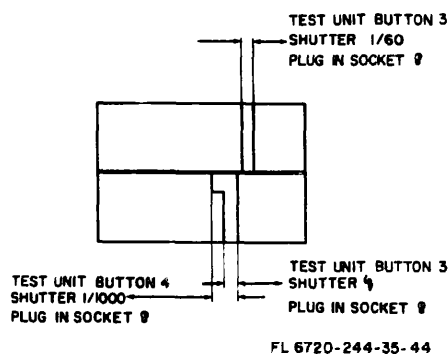

Figure 4-12. Flashbulb synchronizing tolerance pattern.
(1) Depress button 4 on the test instrument, wind the shutter, and set the shutter speed dial to 1/1000 second
(2) Release the shutter, and observe the position of the shutter slit on the pattern plate (fig. 4-12). The shutter slit should appear within the tolerance marks on the pattern plate. If it does not, proceed as follows:
(3) Depress button 3 on the test instrument, wind the shutter, and set the shutter speed dial to 1/60 second.
(4) Release the shutter, and observe the position of the first shutter curtain on the pattern plate (fig. 4-12). The edge of the first shutter curtain should fall within the narrow pattern on the upper part of the plate. If it does not, proceed as follows :